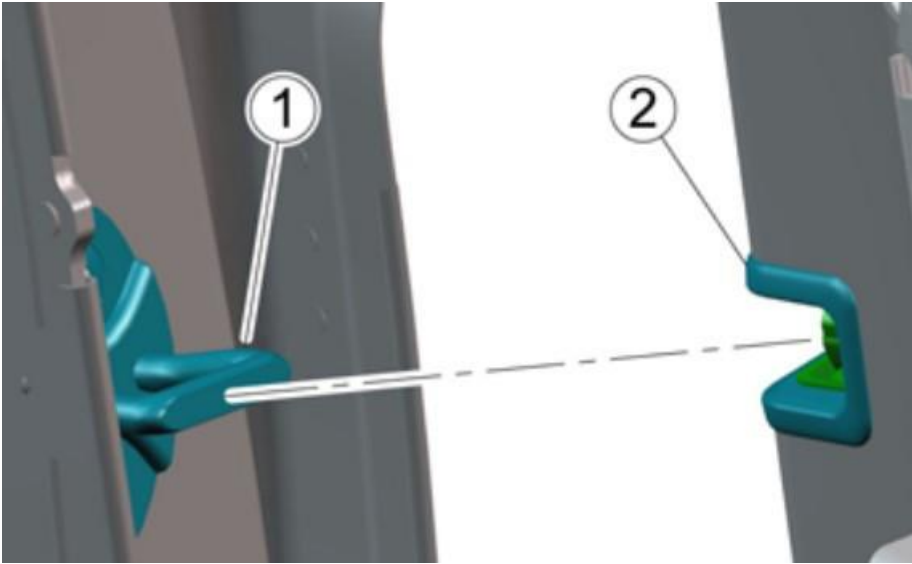

Figure 2
- Referring to Figures 2 and 3 - Adjust the position of the striker (1) so it is located centrally in the door latch (2)